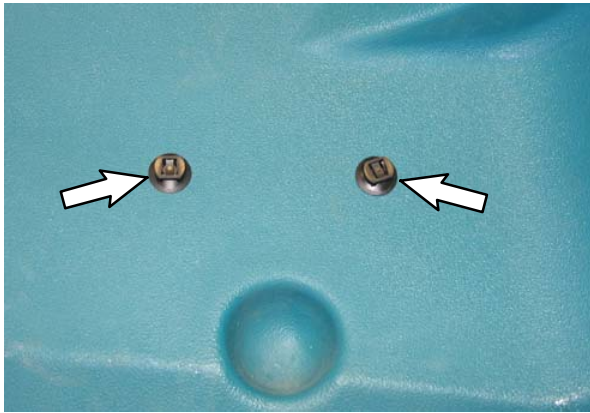
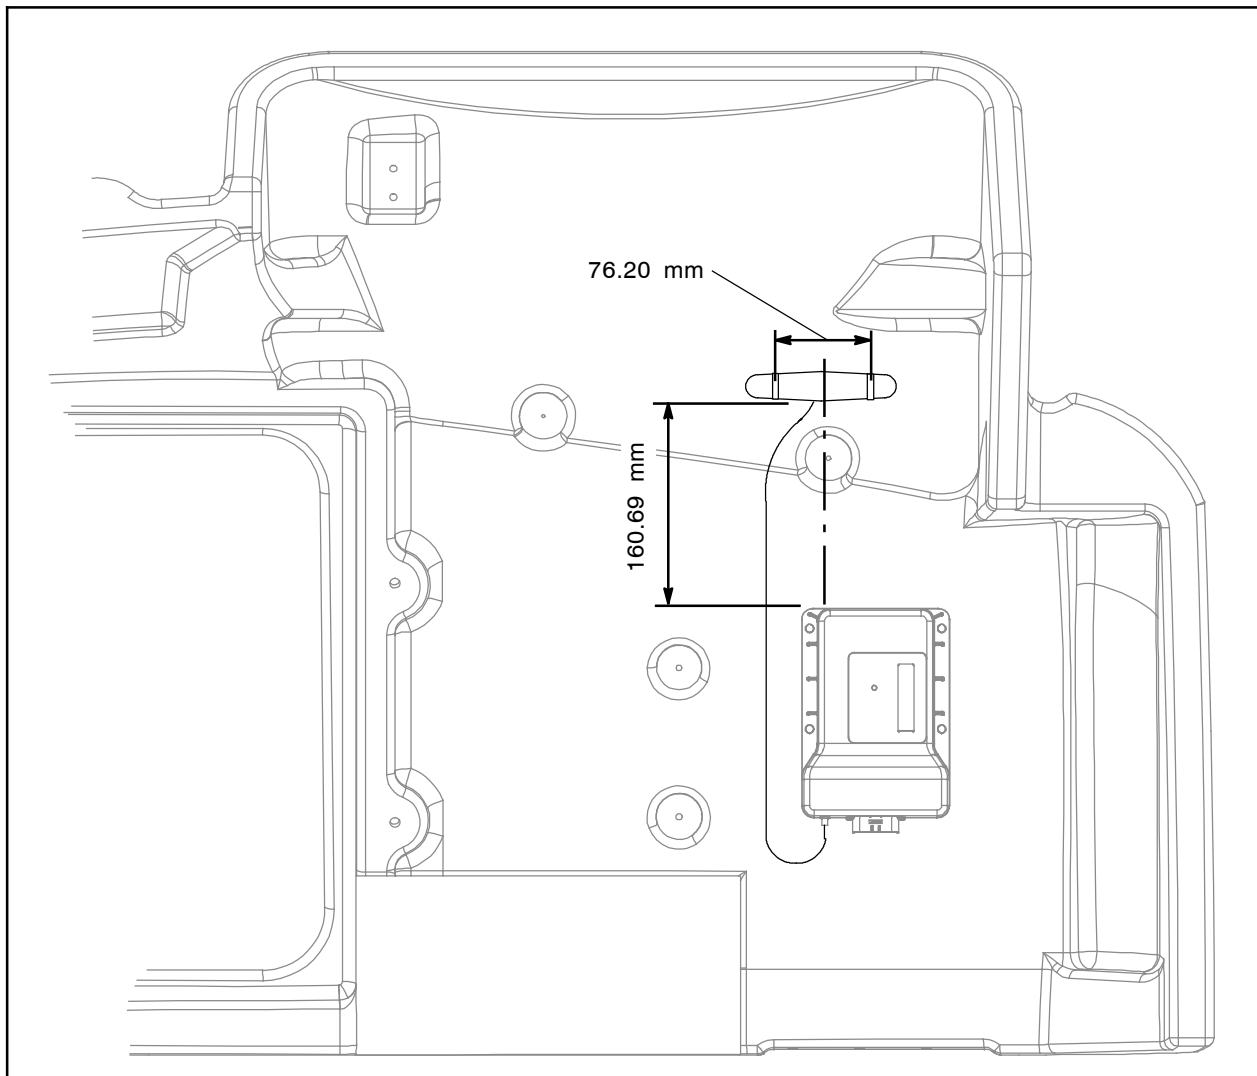

FIG. 9
FIG. 10
8. Drill two 6.35 mm holes into the inner surface of the front shroud. **Do Not** drill into the front surface of the front shroud. (Fig. 9 / Fig. 10)
9. Install two wire tie clips (5) for mounting the antenna (7) to the front shroud. (Fig. 9 / Fig. 10)